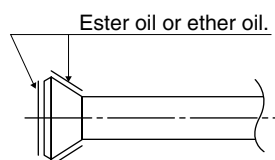

Fig. 7
- Apply ester oil or ether oil around the flare portions before connecting. (Refer to Fig. 7)
- When connecting the flare nut, coat the flare section (both inside and outside) with ester oil or ether oil, rotate three or four times first, then screw in. (Refer to Fig. 7)